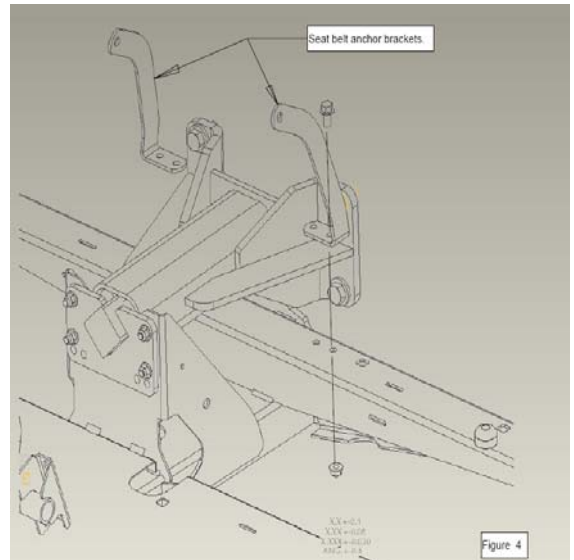

Figure 4
STEP 8. Mount the left and right seat belt brackets to the frame as shown in Figure 4. with 3/8 X .75 hex flange head bolts and flange locking nuts.